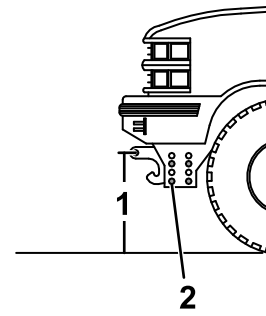

Figure 19
1. Measure the distance from the ground to the coupler spring-pin holes on the undercarriage pushbeam (Figure 19). The measurement should match the height listed for your plow in Specifications (page 17).
2. If the pushbeam is not at the correct height, remove the fasteners securing the pushbeam to the undercarriage (Figure 19).